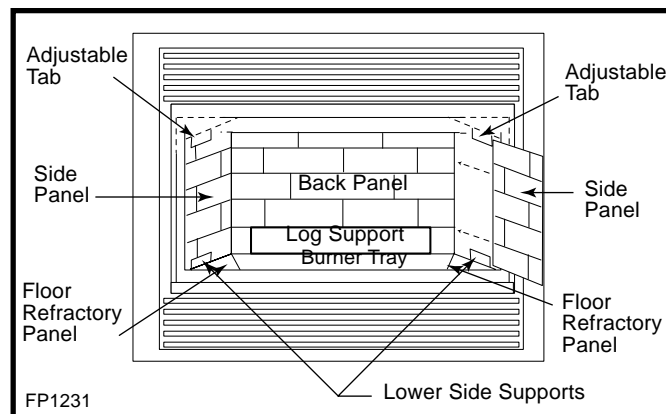

Fig. 51 Ceramic panel installation.
**Installation**, refer to Figures 51 & 52